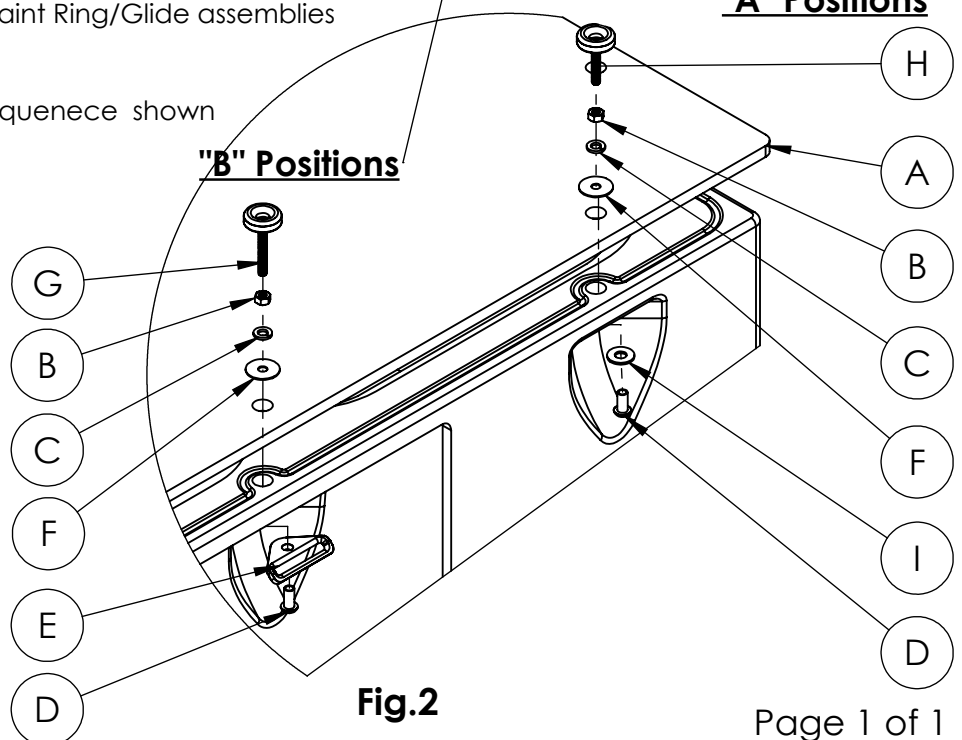

Fig.2
5. Assemble the components in the sequence shown in (**Fig.2**).